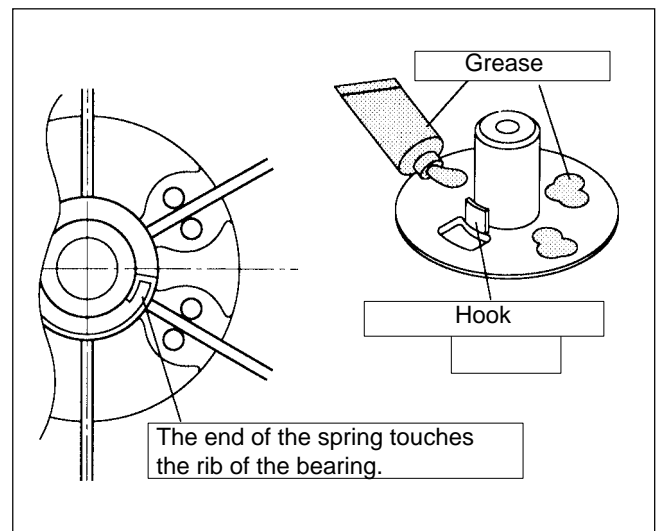

Fig. 10-3
(1) Setting the reel into the case.
- 1: Apply grease to the case. (Fig.10-3)
- 2: Adjust the position of the inner end of the spring, which is set in the reel. (Fig.10-3)